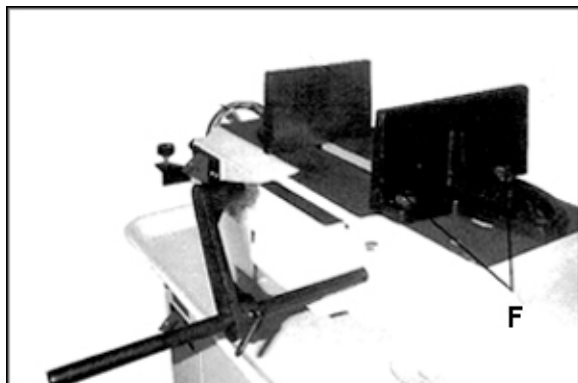

Figure 8-14: Vise Positioning
- 1) Remove bolt and nut assemblies (F, Figure 8-14).
- 2) Position vise and reinstall as shown in Figure 8-14. Pay particular attention to bolt hole location.
- 2) Position vise and reinstall bolt assemblies as shown in Figure 8-14.